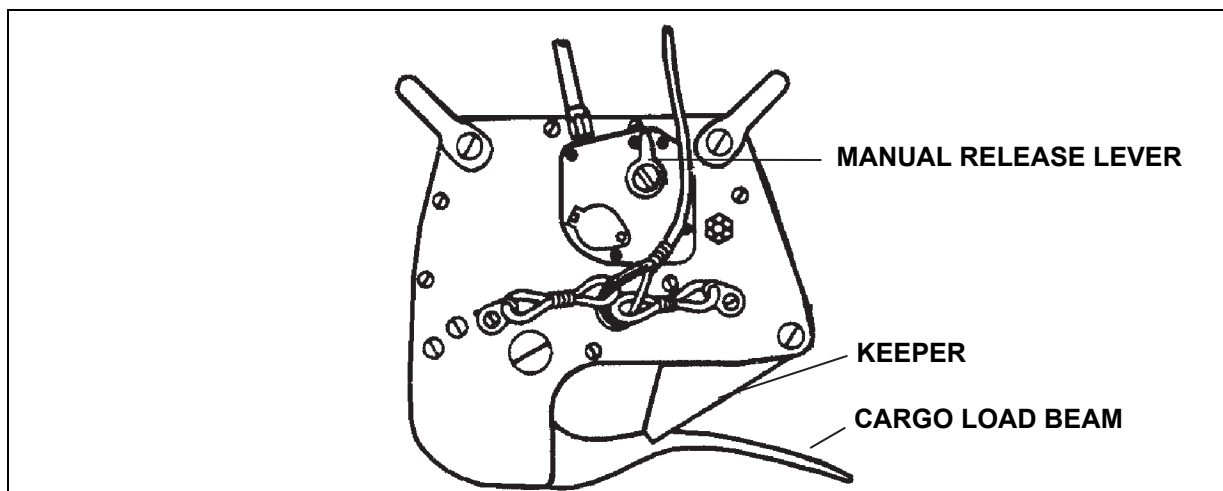

Figure 2-9. H-3 Cargo Hook System
- Both cargo hooks (figure 2-9) are normally opened manually or electrically by the aircrew. A manual release lever is located on the right side of the cargo hook. In an emergency, the ground crew can move the lever aft to open the cargo hook. If the manual release lever should fail to open the cargo hook, do not use the cargo hook.